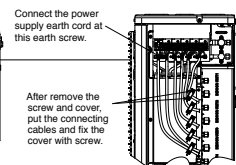

Fig. 1-3-2
- Connect the connecting cord and power cord to the terminal board. (Fig. 1-3-2)
- Fix the connecting cords and power cord with steel band certainly. (Fig. 1-3-2)
- To avoid connecting cord scratch or clamp by side cover, it must be fix by band as shown in Fig. 1-3-2.